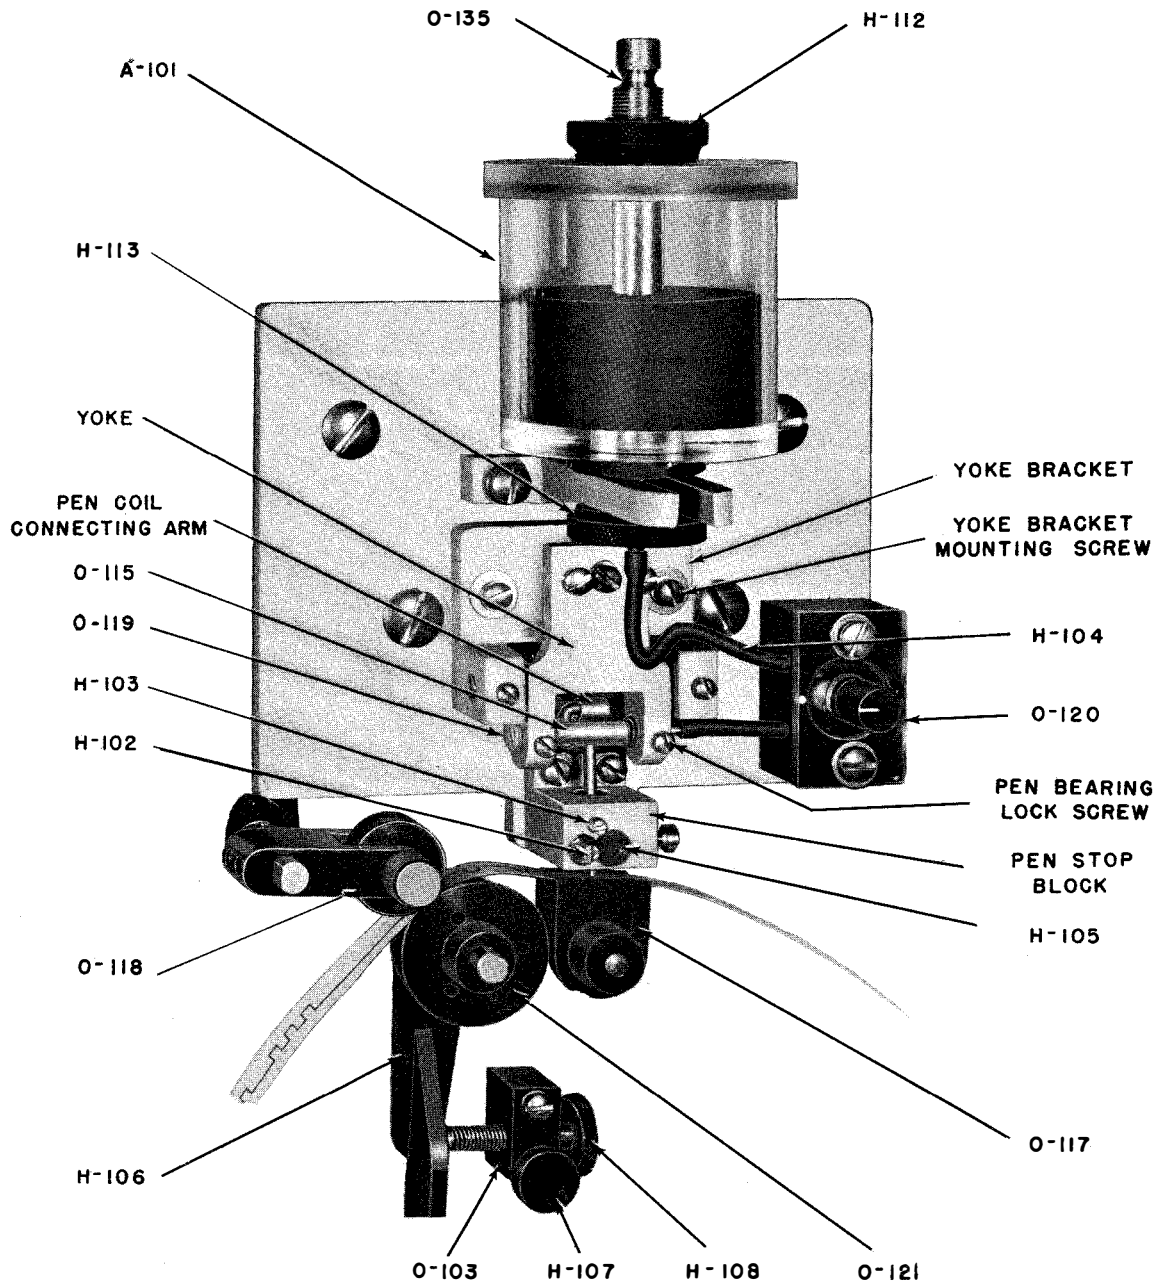

Figure 4-3. Recording Mechanism
Before filling the inkwell, gently close needle valve O-135, (if not already closed), by rotating clockwise. See Fig. 4-3. As the taper of this valve is extremely shallow, very little pressure is required to stop the ink flow. Hose connections to the valve and pen should also be checked for tightness. Remove inkwell cover by first removing knurled thumbnut H-112 which holds cover in place, and half-fill inkwell with undiluted ink of fountain pen quality. Return inkwell cover and cover thumbnut H-112.
OPERATOR SHOULD MAKE CERTAIN THAT THE ABOVE ALIGNMENT (SHOWN IN FIG. 4-3 BELOW) IS MAINTAINED DURING THE NORMAL OPERATION OF THE EQUIPMENT.
Step 5. Remove both yoke bracket mounting screws and carefully slide the entire assembly to the left thereby disengaging the pen from the pen coil arm. See Fig. 4-3.
The stroke of the recording pen is adjustable to any value between 1/32 inch and 3/16 inch. Adjustable stops H-105, located in the pen stop block assembly, apply mechanical damping to the pen and limit its travel. Stroke adjustment is made while the recorder is operating. Loosen both locking screws located at the right side of the pen stop block and adjust the pen stops by turning adjusting bolts H-102 and H-103. See Fig. 4-3. When the adjustment has been made, secure the pen stops by tightening both locking screws.